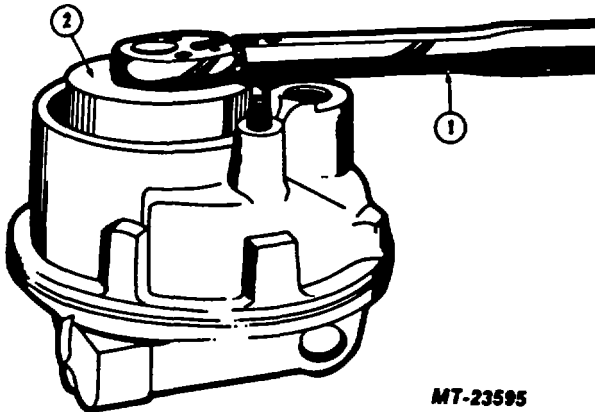

Fig. 41 Tightening Retainer Ring
- 19. Using tool SE-2838, tighten retainer ring to the specified torque, Figure 41.